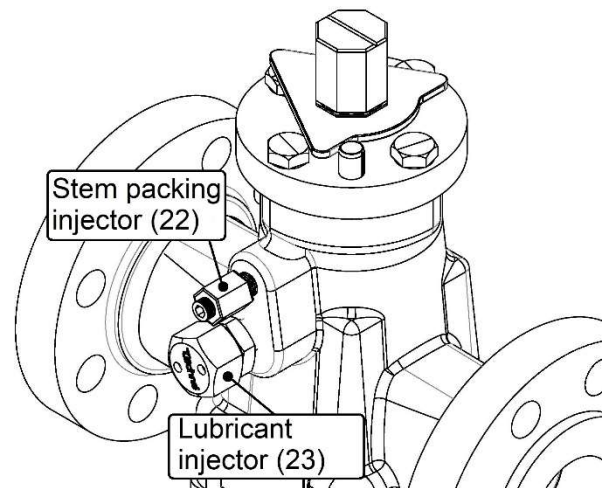

Fig. 4
**LOCATION OF LUBRICANT INJECTOR :** Lubricant injector is giant button head type and is usually located on the side of the body valve ( see Fig. 4 ).
LOCATION OF STEM PACKING INJECTOR : The stem packing injector is placed on the side of the body valve in correspondence of stem (see Fig. 4)